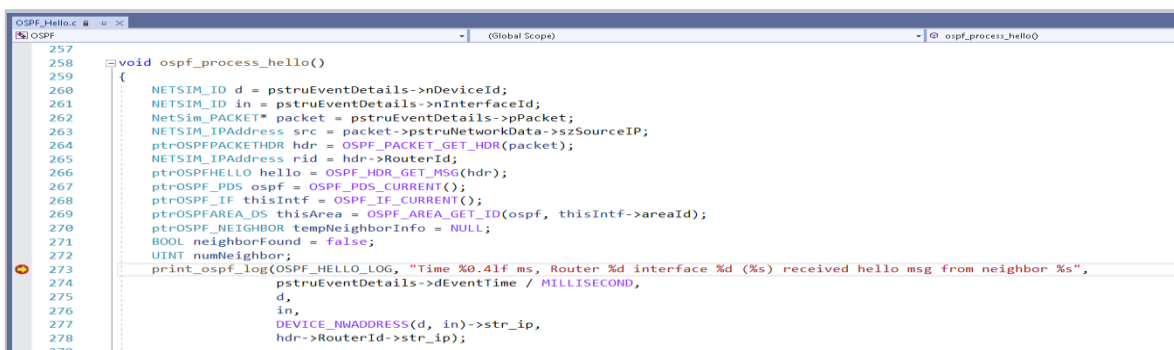

Figure 10-29: Control goes to the project and stops at the break point in the source code.
- Press enter in the command window. Then control goes to the project and stops at the break point in the source code as shown below Figure 10-29.